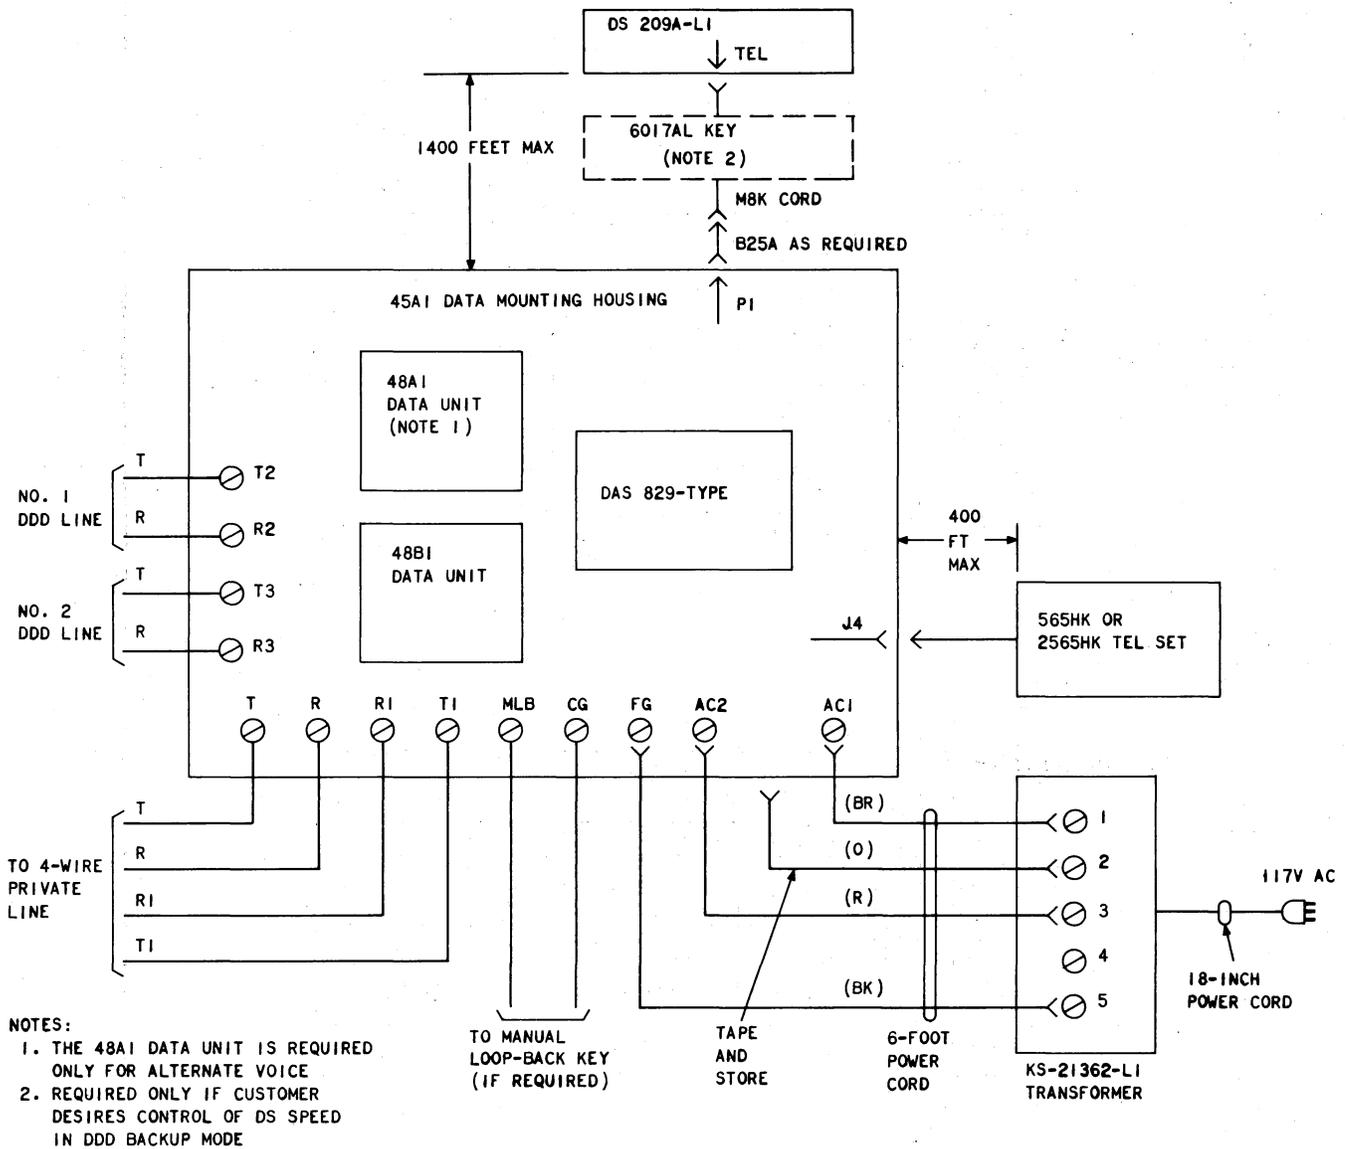

Fig. 9—Data Set 209A-L1 Used on 4-Wire Private Line With Alternate DDD Backup Using DAS 829-Type
**3.04** Connection for DAS 829-type to provide alternate switched network backup is shown in Fig. 9. The 48A1 data unit is required only when alternate voice is to be provided.